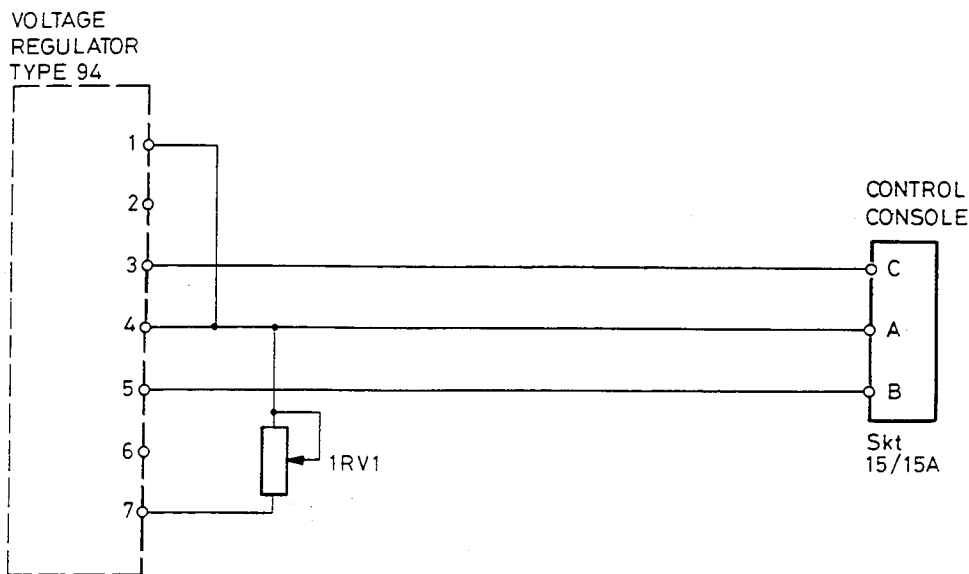

Fig 2 Voltage regulator to test circuit connections
5.6 Connect the regulator to the test circuit as shown in fig 2.